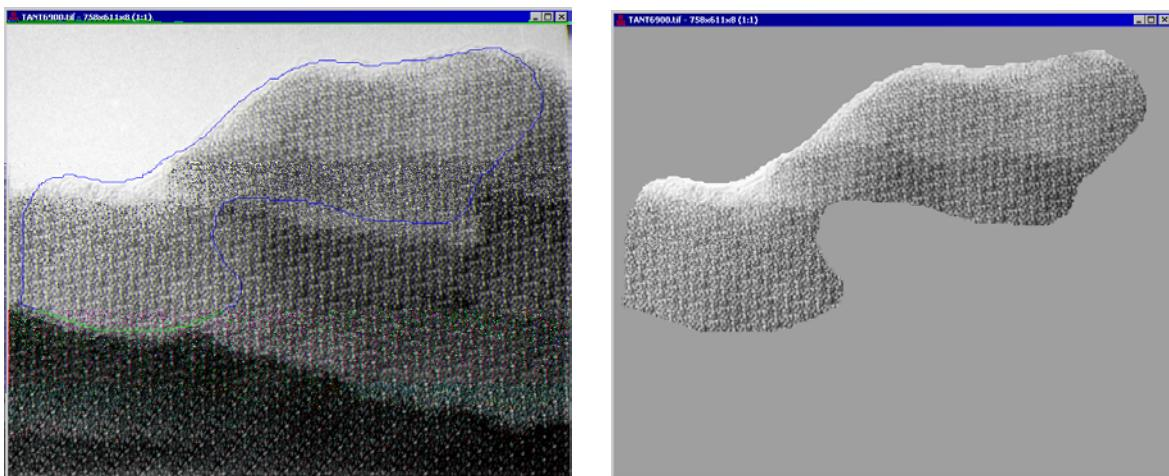

Figure 4-7: Cutting out an arbitrary shaped region of an image
- Select **Keep inside** or **Keep outside** to perform the image cutting, see Fig. 4-7.